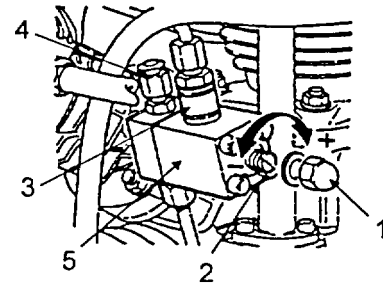

FIGURE 3-6. COMPRESSOR OIL PRESSURE REGULATOR
- c. To fill with oil, pour 1.5 quarts of oil slowly into the oil filler neck. If necessary, add oil. Wait five (5) minutes after filling, check oil level per paragraph 3-5.2, reinstall the filler cap, then start the compressor unit.
- d. Check the operation of the oil pump. It is working properly if no bubbles are visible in the oil pressure regulating valve sight glass (See figure 3-6, item 3).
- a. Remove cap nut (Figure 3-6, Item 1) to expose setscrew (2).
- b. Remove the tube plug (4).
- c. Connect a calibrated oil pressure gauge, 0-1500 psi, to the oil pressure regulator test connector (4) to read oil pressure.